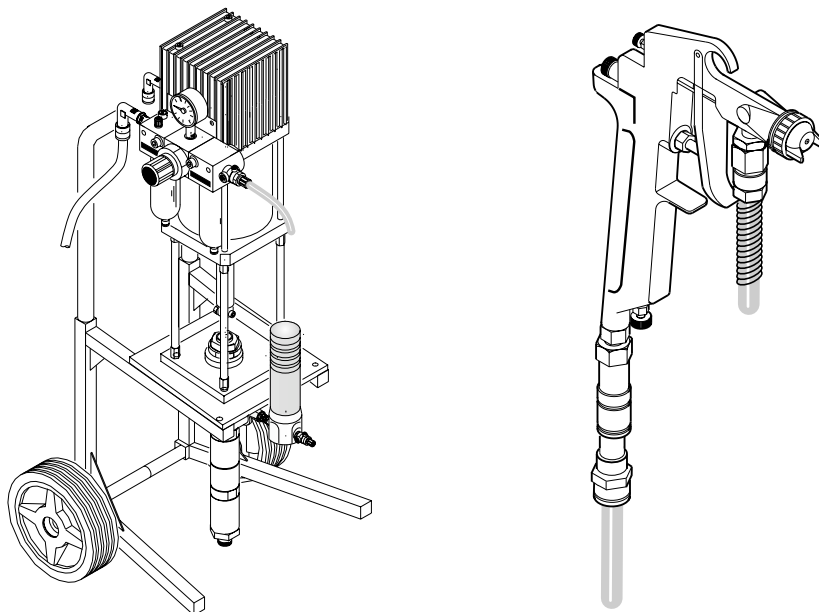

Fig.34
3) Check to make sure that all of the pipes (air and product) are connected correctly (fig. 34). In the event of an incorrect fixing ***before disconnecting any pipe close the air inlet tap.***